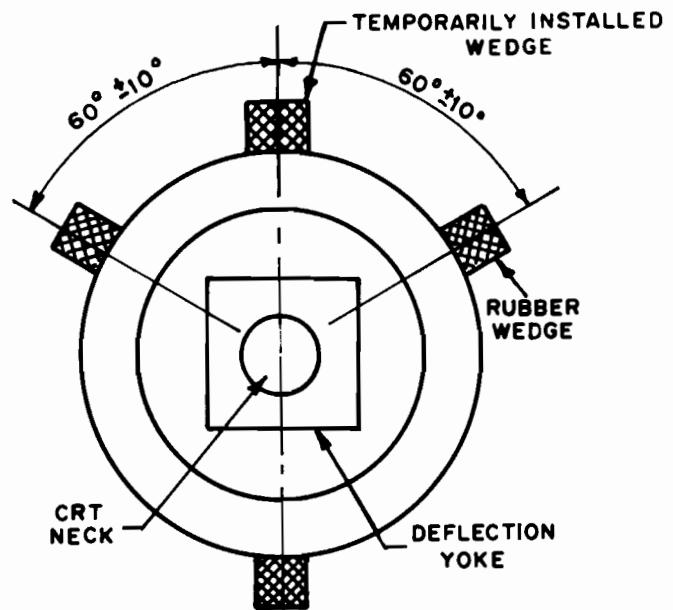

FIGURE 7
## 4.0 PRECISE ADJUSTMENT OF DYNAMIC CONVERGENCE (See Fig. 7, 8 and 9)
- 4.3 Insert three rubber wedges to the position as shown in Fig. 7 to obtain the best circumference convergence.
- 4) The position of each rubber wedge is shown in Fig. 7.